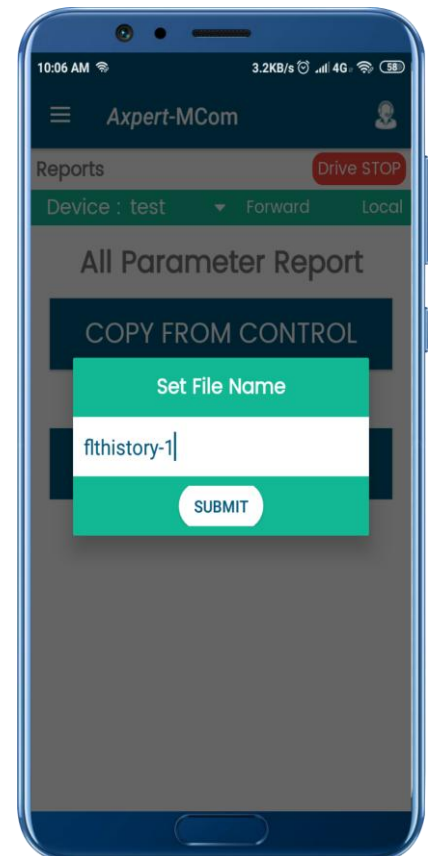

Figure 25: Fault history report filename
- To download, fault history report, click on copy from control in fault history report section. Enter the filename (Figure 25). It takes around 30-40 seconds to complete the operation.